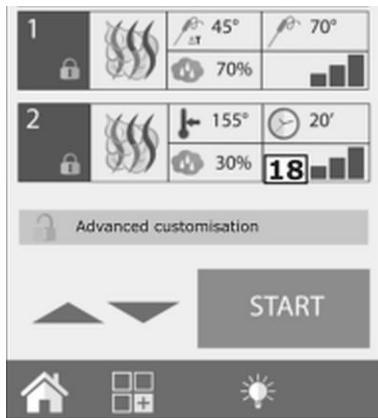

Fig. 22
1. If one or more thermal processing parameters are to be changed or automatic pre-heating is to be activated/deactivated, press "Advanced customisation" (key 18, Fig. 22).
3. Select the base thermal processing program, open it and make changes by pressing 'Advanced customisation' (key 18, Fig. 22).